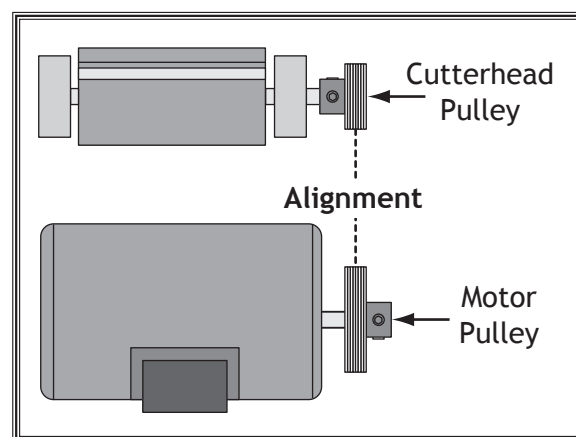

Figure 16. Proper pulley alignment.
13. Tighten set screws and repeat **Step 10** to verify proper pulley alignment. Pulleys should be aligned, as shown in **Figure 16**, when belt is properly tensioned.